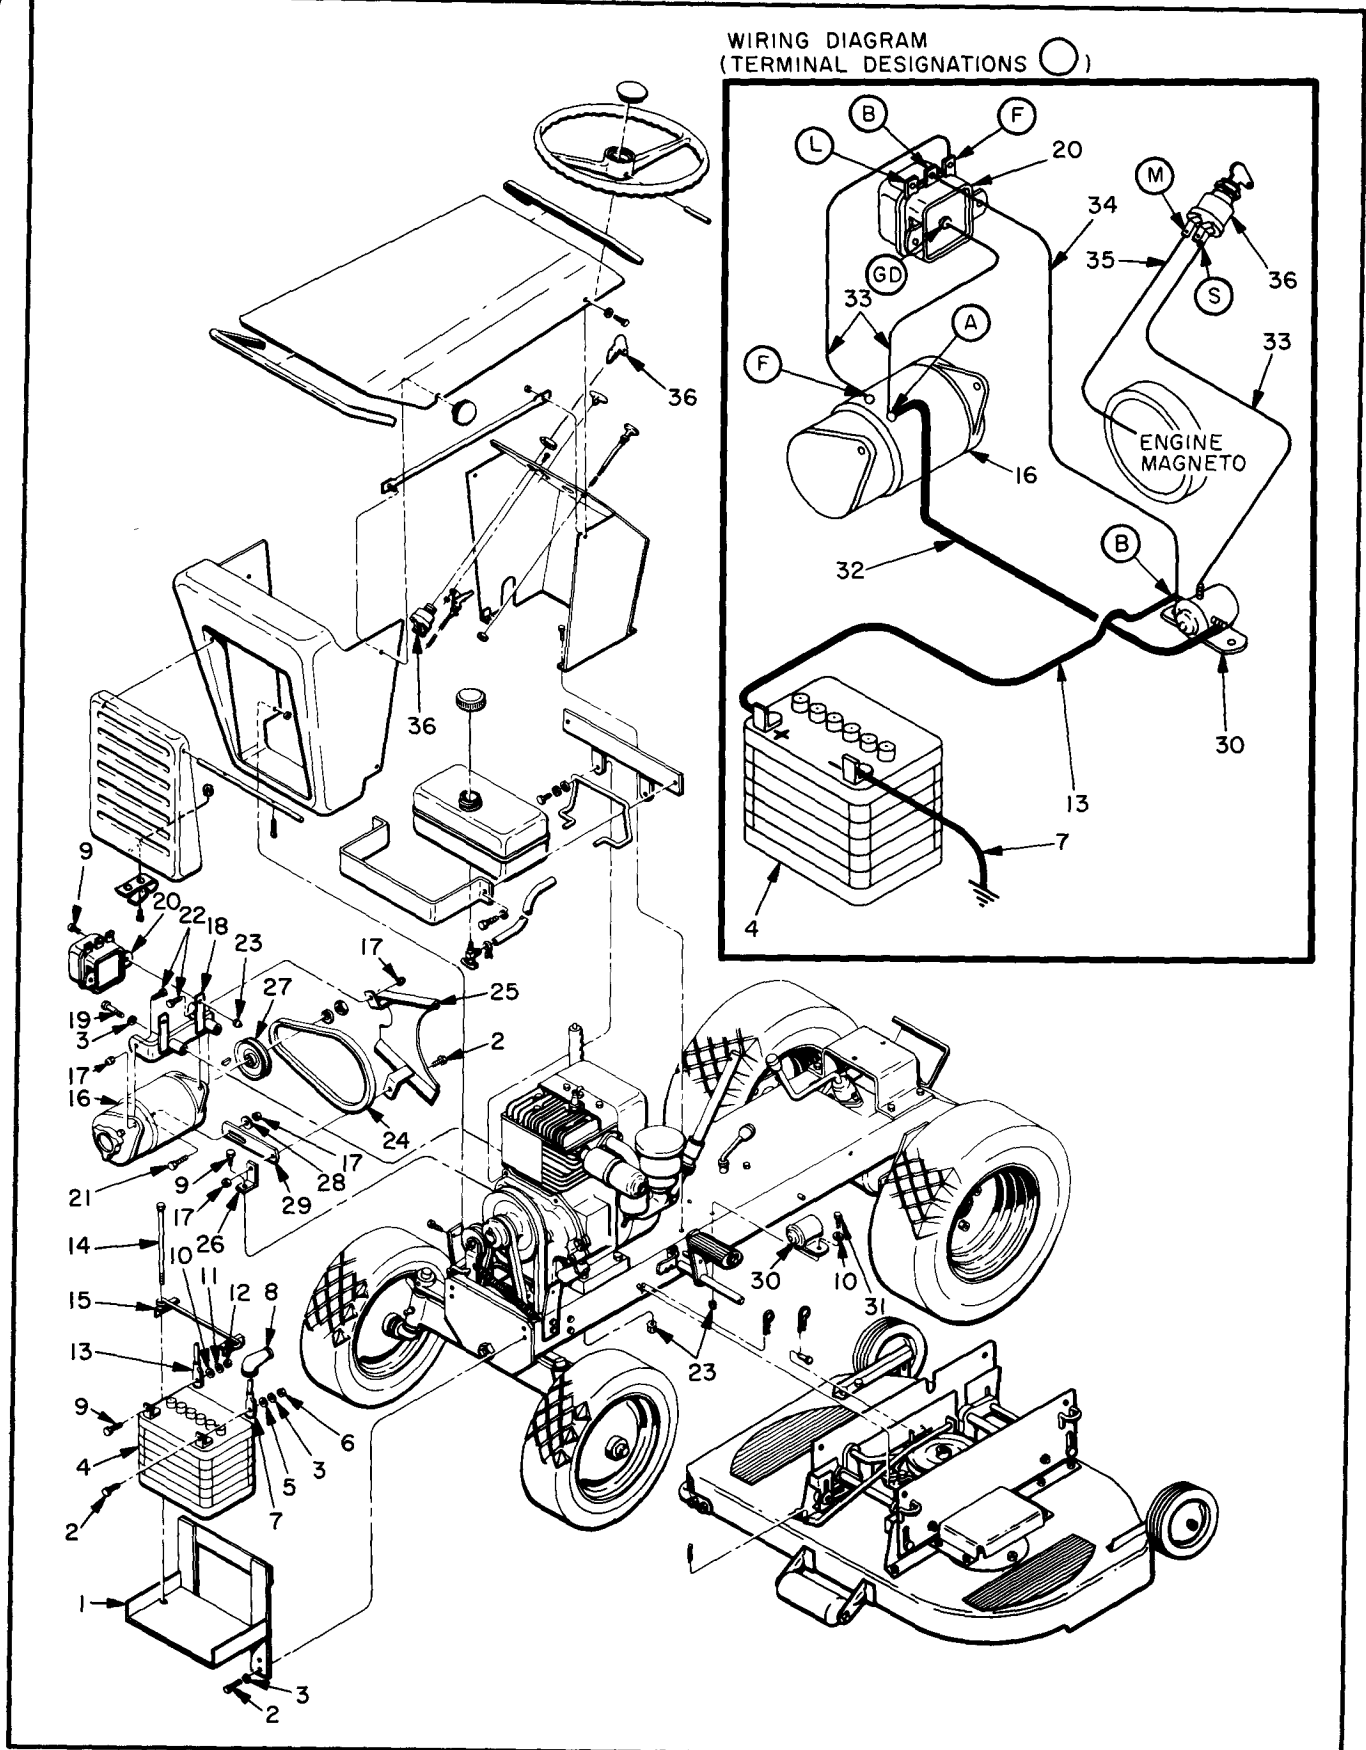

Figure 10A. Electrical Group
In addition to the instructions on page 3, it will be necessary for you to install the battery before you begin operations. First, activate the battery by adding the electrolyte according to the instructions which accompany the battery. Always add the electrolyte to the battery before the battery is installed in the tractor. This will help in handling the corrosive acid, which makes up the electrolyte, and prevent spilling of the acid on the metal parts of the tractor. Refer to the exploded view, figure 10A. Open the grille and swing it up to permit access to the battery (4) in the battery support (1) with the battery terminals toward the front of the tractor. Use the bolts (14) and the holddown clamp (15) provided and secure the battery in the carrier. Be sure that the holddown clamp is not pressing on the filler plugs or touching the battery terminals. The rubber ends of the holddown clamp should grip the edges of the battery snugly. Tighten the bolts sufficiently to hold the battery in place but do not over-tighten. Attach the ground wire (13), which is attached to the engine base, to the negative terminal of the battery with the hardware supplied (9, 10, 11 and 12), coat the terminal and hardware with petroleum jelly to prevent corrosion and slip the terminal boot (8) over the terminal. Attach the positive cable, which is attached to the solenoid (30), with hardware (2, 3, 5 and 6), coat with petroleum jelly and slip the terminal boot (8) over the terminal. Return the grille to its normal position and press in until grille latch closes.